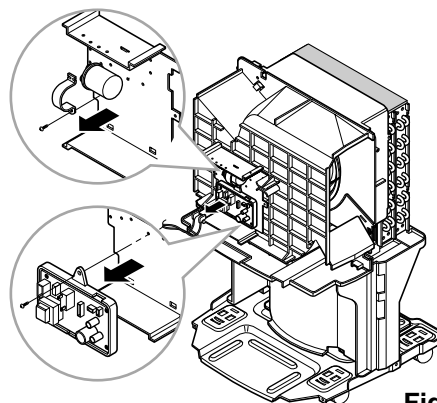

Figure 15
2. Remove a screw which fastens the PWB(PCB) ASSEMBLY, MAIN and pull it out after unhooking from 2 rectangular holes of control box (lower). (See Figure 15)
1. Remove a screw that fastens capacitor. (See Figure 15)